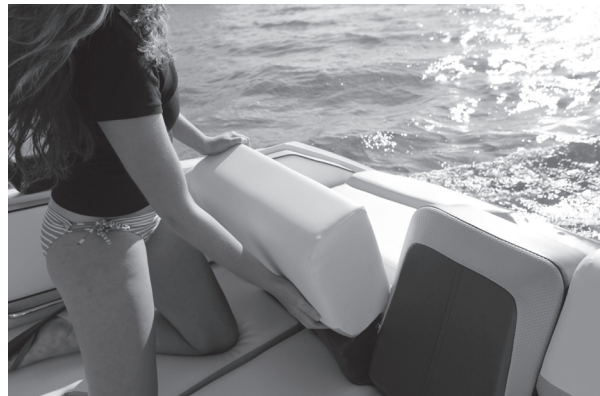

Figure C31: Adjustable Stern Backrest (Swim Platform Lounge Seating Position)
To reposition the backrests for swim platform lounge seating simply pivot the top of the backrest towards the bow. To return to the stern seating backrest position reverse the previous step. See Figure C31.
- 1) Rotate the top of each backrest towards the bow to the Swim Platform Lounge Seating position (Figure C31).